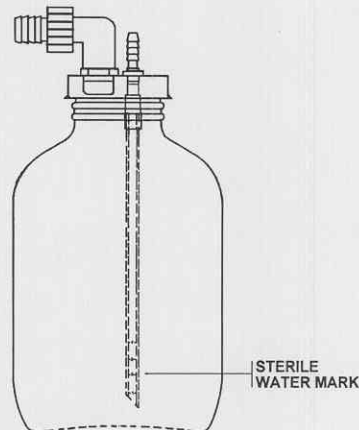

Figure 2-5. Water seal.
- f. Pour sterile water into the patient bottle until it reaches the 2-cm mark on the graduated water seal tubes as illustrated in figure 2-5.